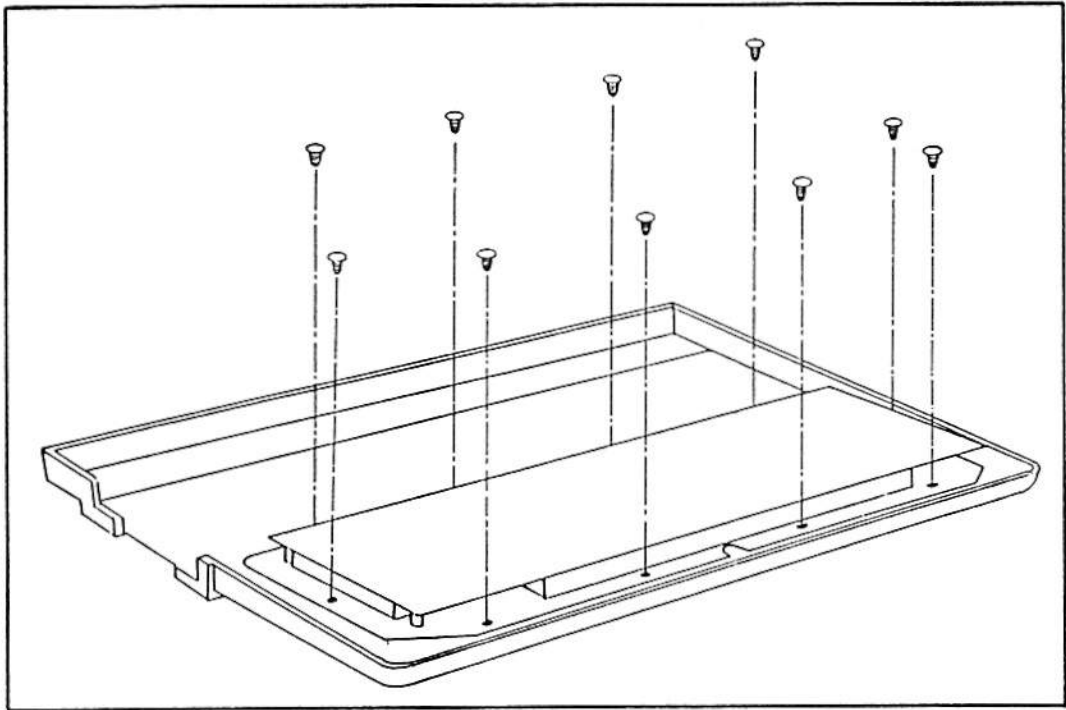

Figure 5.7 Location of the Screws on the Upper Housing
- (2) Locate and loosen 10 self-tap screws. (See figure 5.7)